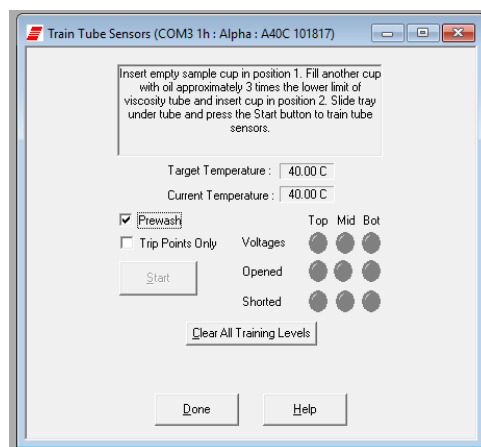

Figure 3: Train Tube Sensors Window
1. To train tube sensors, click **Service** from the primary display and select the **Train Tube Sensors** option for the desired instrument. This opens the **Train Tube Sensors** window as shown in Figure 3.